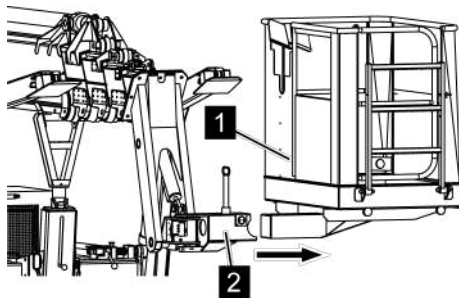

Fig. 109: Removing the working basket
5. ➔ Lift the working basket (Fig. 109/1) slightly and pull it out of the bracket (Fig. 109/2).